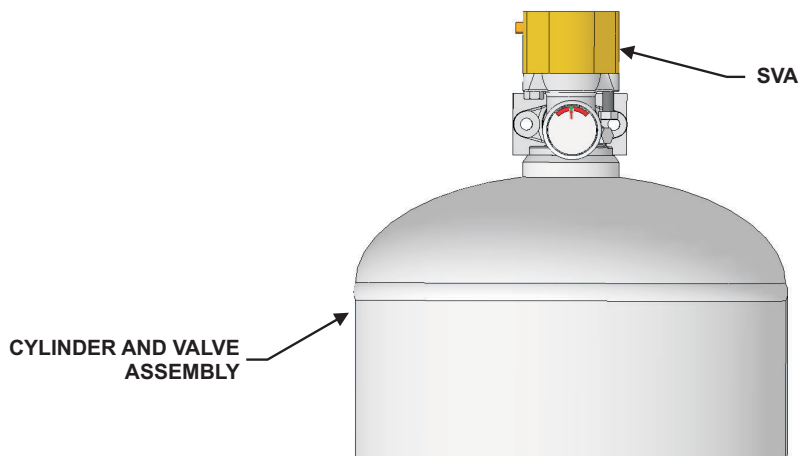

Figure 5-20. System Valve Actuators
5. Remove the System Valve Actuators from all cylinders. See Figure 5-20 for location.